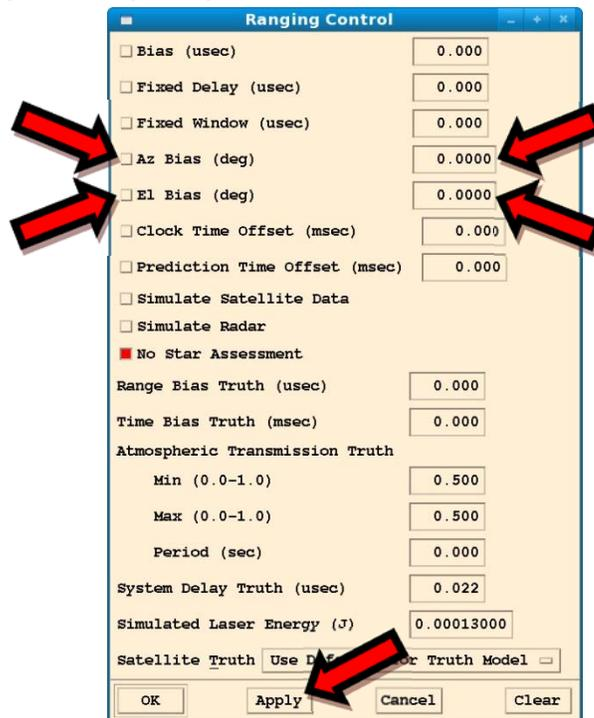

Figure 4-19: Ranging Control Window
- b. **Method 2: Use the Ranging Control window** – Open the window by going to *Control* => *Ranging*, selecting the Az and El Bias radio buttons [left], entering the bias value desired [right], and applying the changes (Figure 4-19).